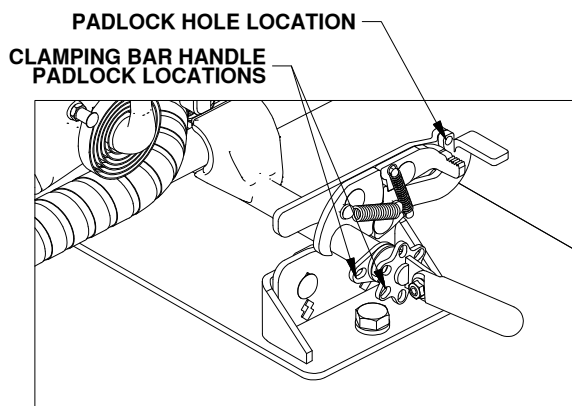

Figure D3: View looking down at Biker Bar.
6. **Optional padlock use.** For added security there are locations where padlocks can be installed, two on each side of the base and one on the clamping bar near the handle, See figure D3. Padlocks should only be installed once the bike is securely clamped into the base. When aligning holes to install a padlock onto the clamping bar always turn the clamp handle so that it becomes tighter.